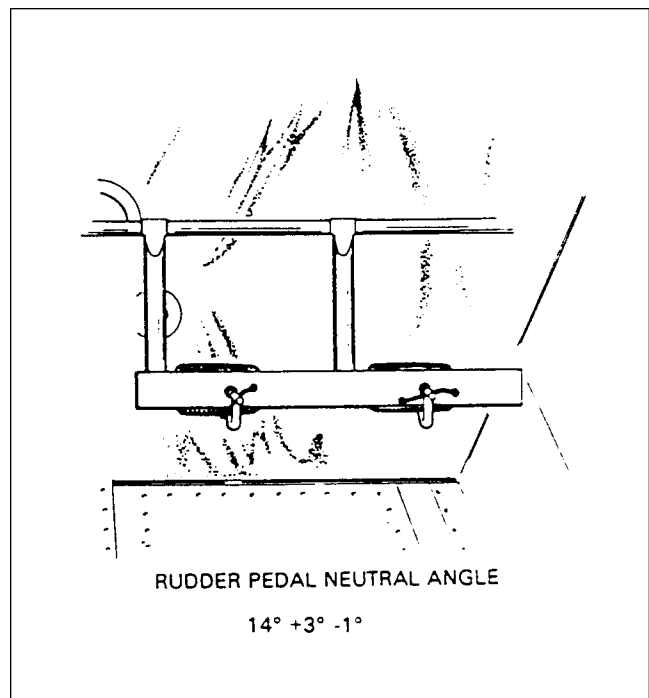

Figure 27-10. Clamping Rudder Pedals
- c. Clamp rudder pedals to align in a lateral position as shown in figure 27-10.